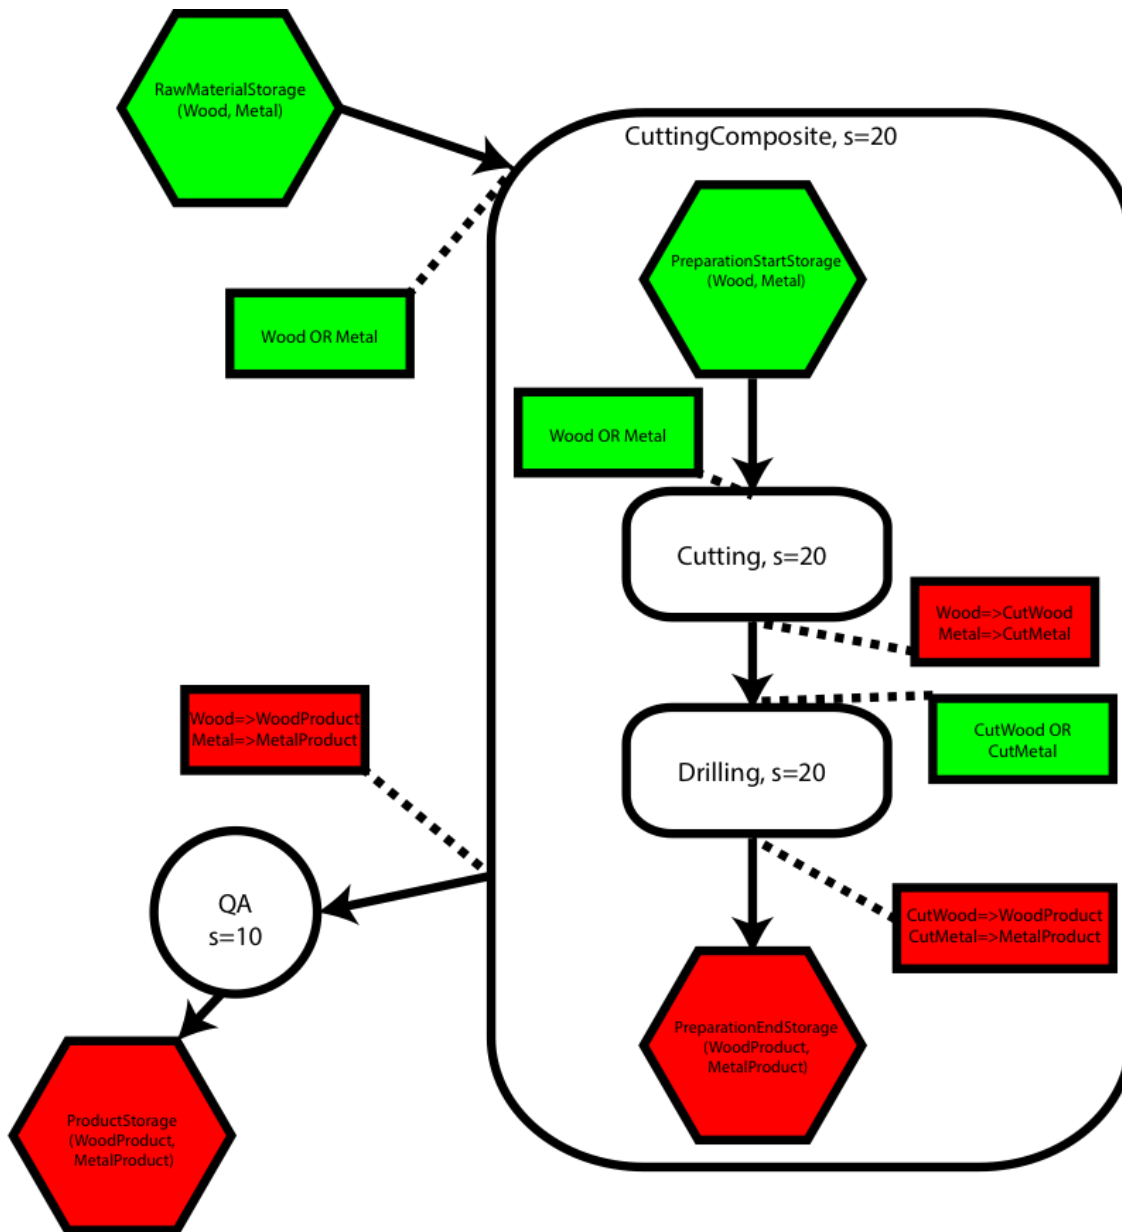

Figure 1:
Download the meta-model solution for the previous assignment in Canvas. You will use this instead of your own meta-model solution. Execute the following OCL expressions on the provided example model (example.xmi; an example illustration of the manufacturing system, with some omitted details, is depicted in Figure 1), first manually and then using the interactive OCL console:
6. Transitions shall only connect ManufacturingSystemElements within the same ManufacturingSystem. E.g. in the example in Figure 1, it would not be allowed to connect RawMaterialStorage directly to the Step Cutting, as Cutting is inside another ManufacturingSystem (CuttingComposite).
7. Outputs and inputs of connected Steps shall be compatible. That is, the input condition of a Step has to include at least one condition on a WorkPieceType that is produced by at least one Step connected to it via an incoming transition. E.g. in the example in Figure 1, the output of Step Cutting is compatible with Step Drilling, as at least one of the possible outputs of Cutting (CutWood and CutMetal) occur in the input of Drilling.